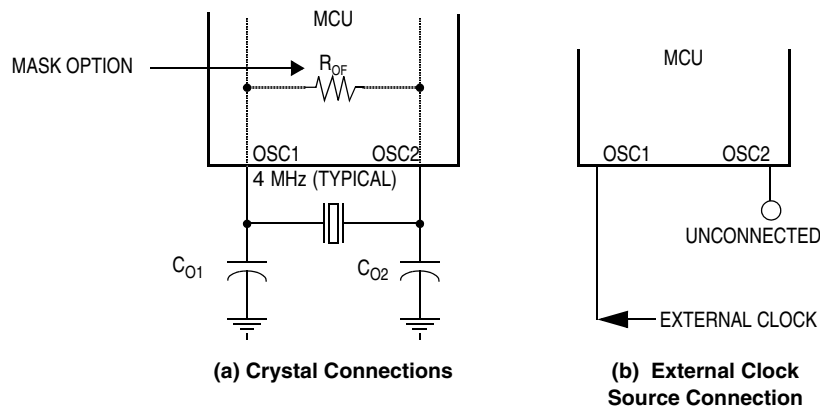

Figure 1-4. Oscillator Connections
1. A crystal or ceramic resonator as shown in Figure 1-4\(a\)
2. An external clock signal as shown in Figure 1-4\(b\)
The circuit in Figure 1-4(a) shows a typical 2-pin oscillator circuit for an AT-cut, parallel, resonant crystal. The crystal manufacturer's recommendations should be followed, since the crystal parameters determine the external component values required to provide maximum stability and reliable startup. The load capacitance values used in the oscillator circuit design should include all stray capacitances. The crystal and components should be mounted as close as possible to the pins for startup stabilization and to minimize output distortion. An internal startup feedback resistor of $R_{\text{O}F}$ between OSC1 and OSC2 can be selected as a mask option.
An external clock from another CMOS-compatible device can be connected to the OSC1 input, with the OSC2 output not connected, as shown in Figure 1-4(b). This configuration is possible regardless of the oscillator setup.